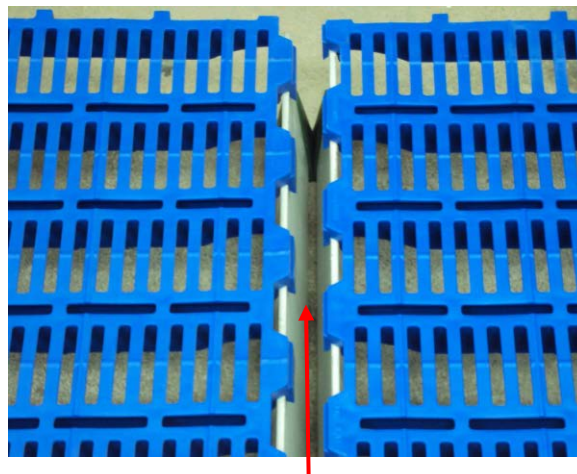

Figure 6
1. Starting in first row, interlock sections of plastic flooring slats behind each other. Position tabs as shown (Figure 6) and slide until tabs tightly interlock (Figure 7). Use of rubber hammer may be necessary.